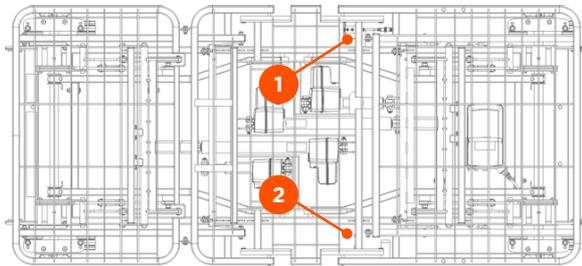

Figure 8.2
- There are two handset ports located on either side of the bed as shown by 1 (right side) and 2 (left side) on Figure 8.2. The bed will be delivered with the handset cable plugged into the socket in position 2 on the left side.